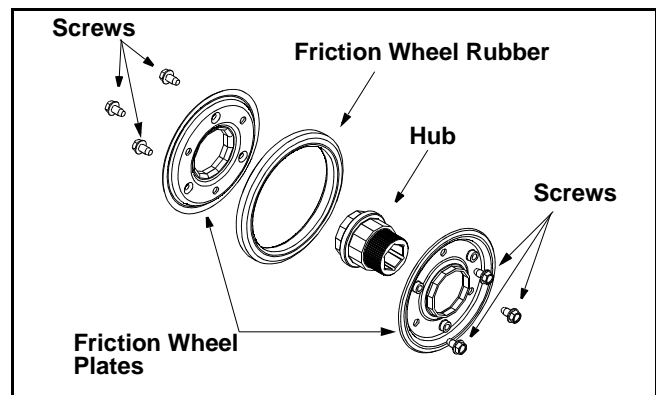

Figure 18
- Remove the six screws from the friction wheel assembly (three from each side). Remove the friction wheel rubber from between the friction wheel plates. See Figure 18.